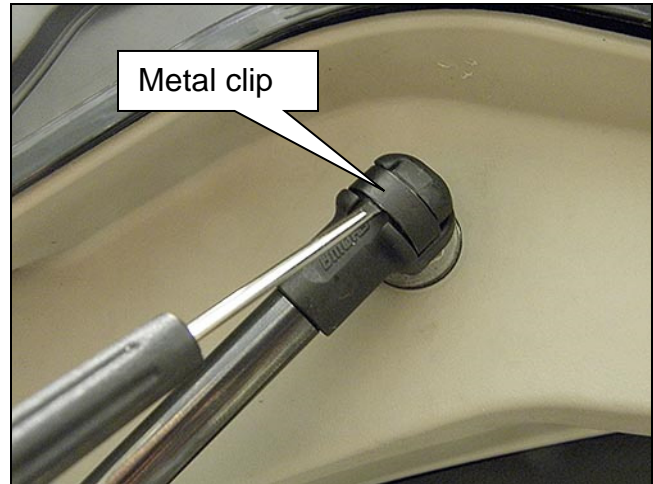

Figure 8
1. Release the metal clip located on the back door stay rod end socket using a suitable tool (Figure 8).